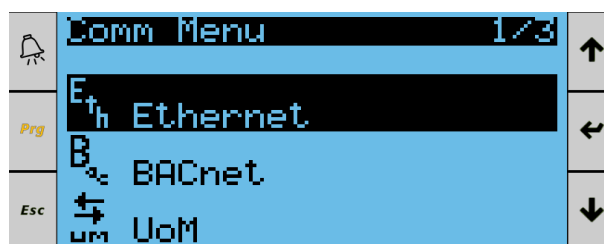

Figure 85. Settings Menu, Communications Sub-Menu
25. If BACnet BMS connectivity is used, return to the Communications Menu shown in **Figure 85** below and select BACnet.